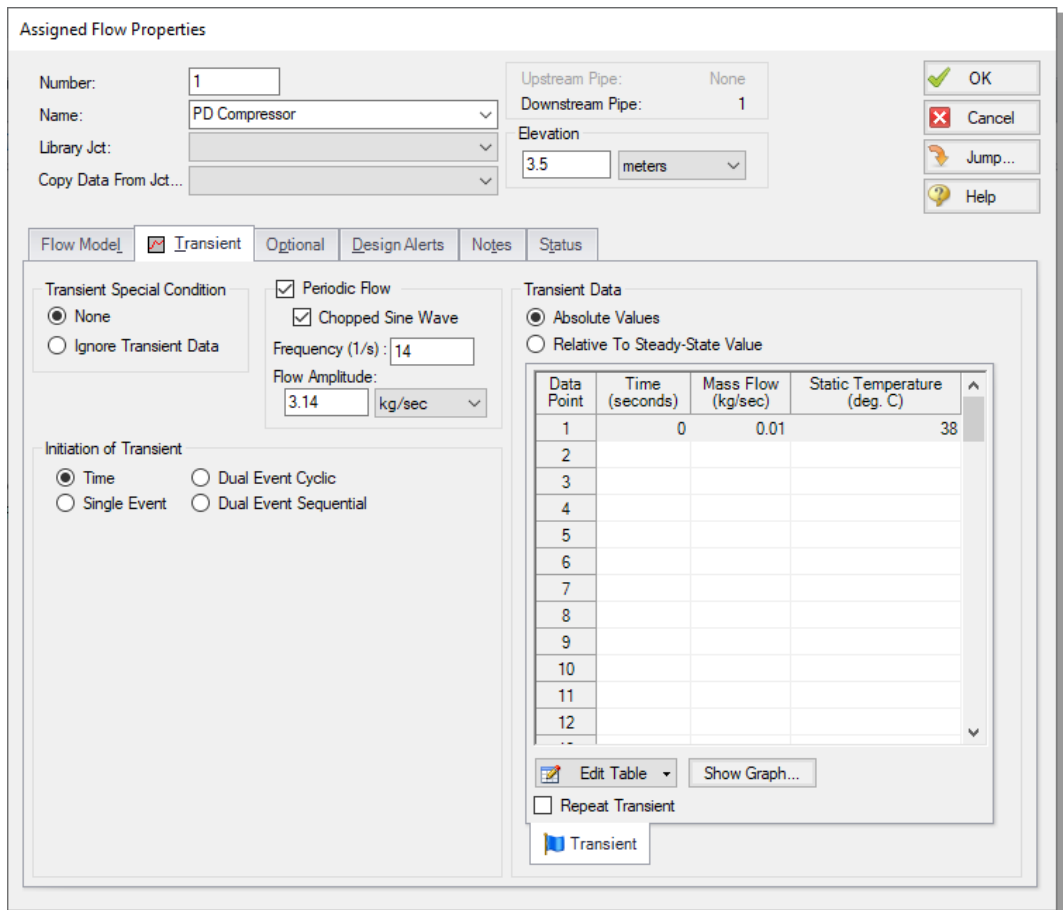

Figure 6.7 Assigned Flow Properties window with Periodic Flow transient applied
6. Set the Flow Amplitude to 3.14 kg/sec (Figure 6.7).